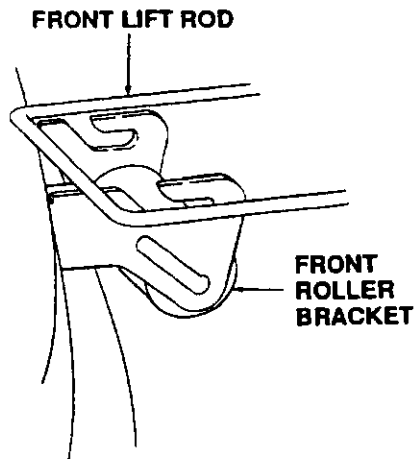

Figure 14
9. Hold front lift rod upward and slide mower deck forward. Lower front lift rod so it rests to the rear of front roller bracket slots of the deck. (Refer to Figure 14.)